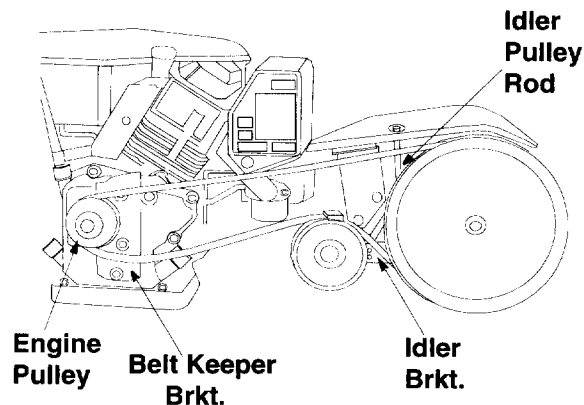

Figure 12
3. Remove the hairpin clip and flat washer from the idler pulley rod. See Figure 12.
4. Move the idler pulley rod to the lower hole in the idler bracket. See Figure 12.
4. Remove the belt keeper bracket located behind the engine pulley by removing two hex bolts and lock washers. See Figure 12.
**NOTE:** Upon reassembly, make certain the belt is routed over the idler pulley and inside of belt keepers by engine pulley. See Figure 12.